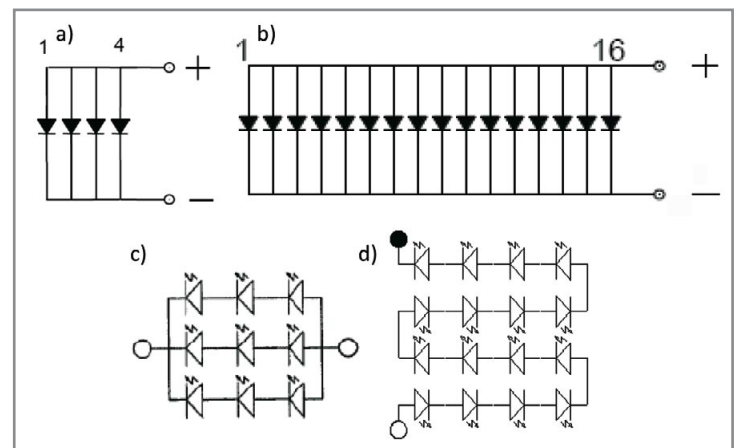
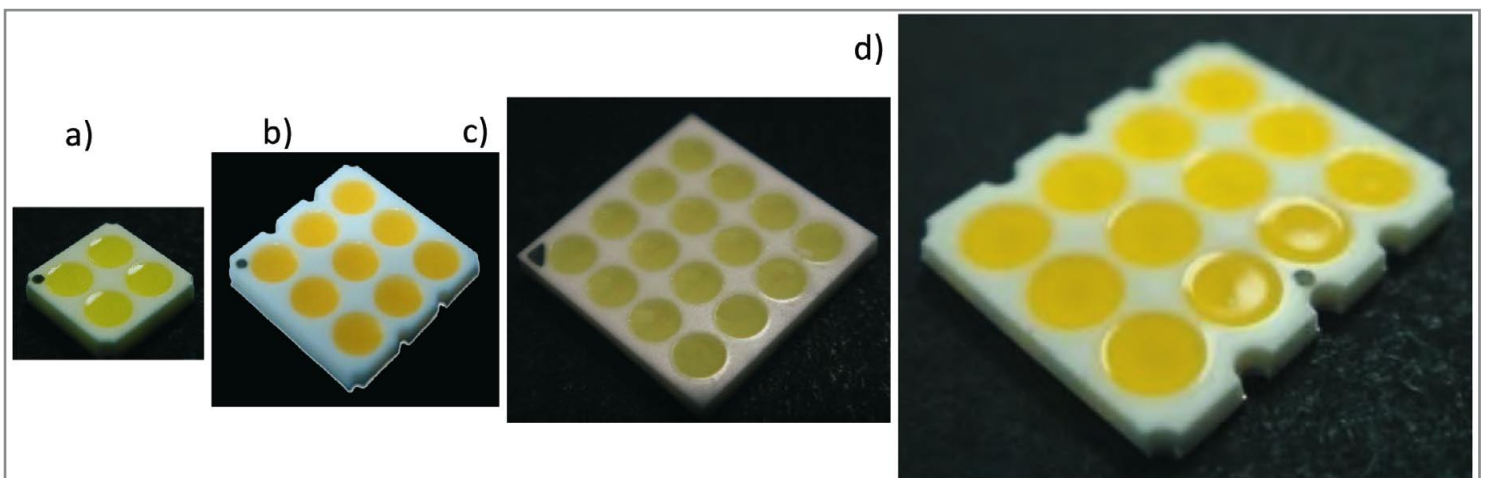

Figure 2: Internal circuit diagrams for a) C3535; b) C6060; c) C5050; d) C7676.
Figure 1: Cetus LEDs with different array size. a) C3535; b) C5050; c) C6060; d) C1109.
The main advantage of an array LED is versatility, in particular, flexibility of array size. As shown in Figure 1 the C3535 (Figure 1(a)) is a 2 x 2 LED array consisting of 4 LED chips; the C5050 (Figure 1(b)) is a 3 x 3 LED array consisting of 9 LED chips; the C6060 (Figure 1(c)) is a 4 x 4 LED array consisting of 16 chips; and the C1109 (Figure 1(d)) is a 3 x 4 LED array consisting of 12 LED chips. Due to the flexible nature of an array LED, it is easy to develop LED products with different input powers based on the same LED chip. As a result, the performance of an entire family of LEDs can be improved with a single superior LED chip.
In addition to versatility in array size, a chip-array-on-ceramic LED also allows versatile electrical connection. The connection between LED chips can be serial, parallel or a combination. Figure 2 are circuit diagrams for C3535, C6060, C5050, C7676 and ACC6565 LEDs. The
C3535 (Figure 2(a)) and C6060 (Figure 2(b)) each comprise parallel connected LED chips and respectively have a rated current (IF) of 80mA and 350mA at a drive voltage of 3.3V. The C5050 (Figure 2(c)) comprises 3 parallel strings of serially connected LEDs. Its rated current is 60mA for a drive voltage of 10V. The C7676 (Figure 1(d)) has 16 LED chips connected in series with a rated current of 20mA and 50V drive voltage. In the ACC6565 the LED chips are connected in a bridge (self rectifying) configuration allowing the device to be directly driven from an AC power source without additional rectifying circuitry. The rated current for such a device is 80mA for 12V drive voltage. By changing the LED array size and the electrical connection, the LED can be readily adapted to operate from different power supply sources. This feature makes it more competitive in applications where the power supply source is predefined.